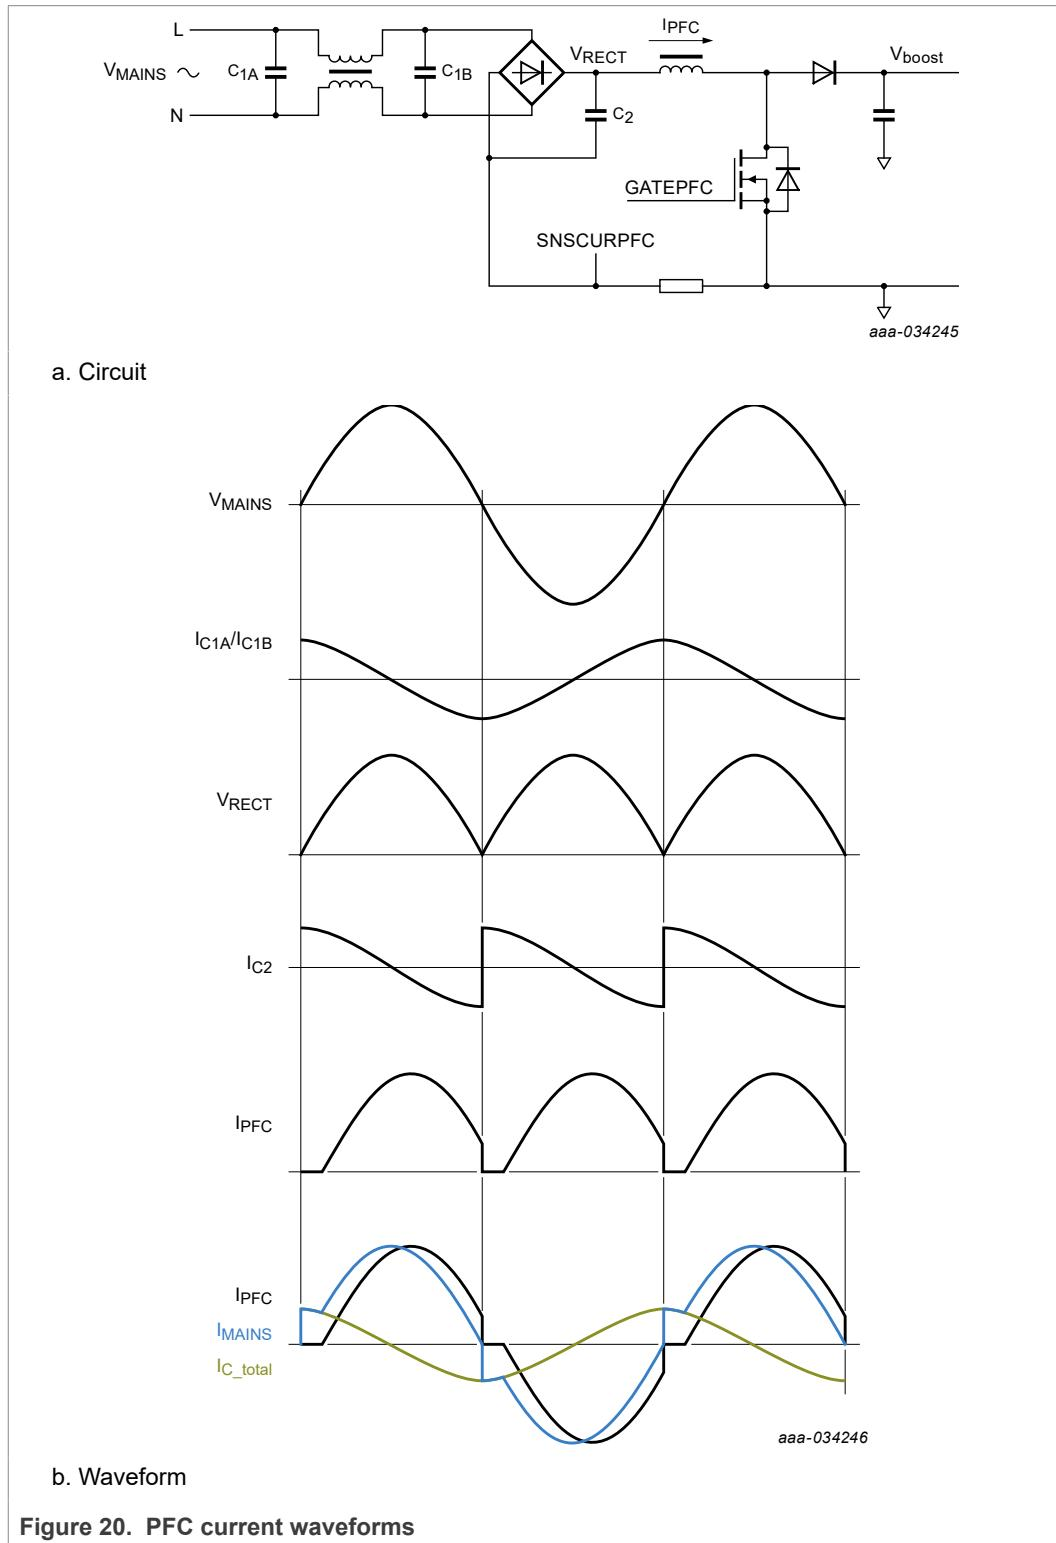

Figure 20. PFC current waveforms
To achieve a high power factor (PF) and low total harmonic distortion (THD), the input current of the power supply must follow the mains input voltage. However, as the filter capacitances cause a shift of 90° between the mains input current and its voltage, the input filter disrupts PF and THD. To improve PF and THD, the average PFC current is in accordance with a shifted sine wave (see Figure 20).